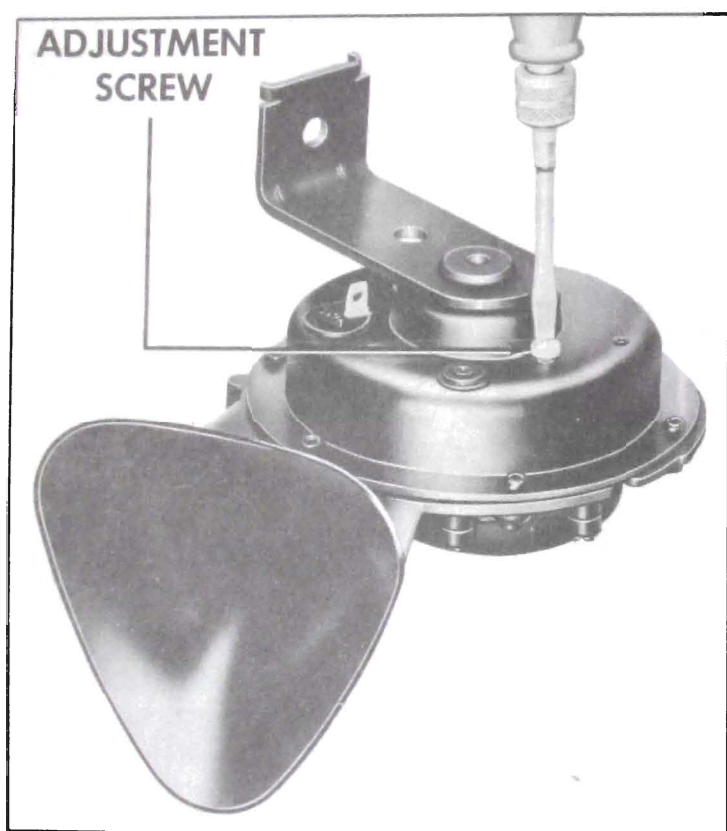

Figure 10-68—Horn Current Draw Adjustment
3. Adjust to specified current draw if necessary, by turning adjusting screw clockwise to decrease or counterclockwise to increase current draw. See figure 10-68.